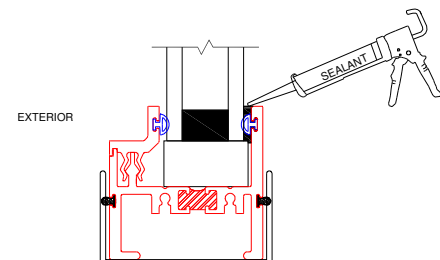

Figure 12:
1. Apply a continuous 1/4" bead of sealant before and/or after glazing (Figure 12).